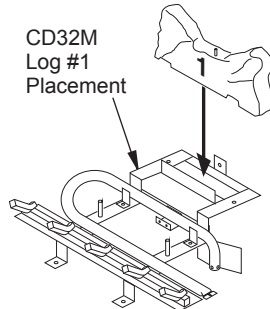

Figure 18 - Installing Log #1 (CD36M-A Series Shown)
- Place log #1 (back log) on top of grate as shown in Figure 18 for the CD36M-A Series. Log #1 will go in front of the metal partition on grate (see Figure 18). Make sure notches in bottom of log fit over grate.